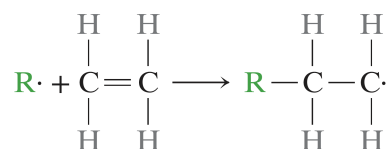

Figure 3: Initiation step of the addition polymerisation process.
1. **Initiation:** A initiator molecule undergoes an addition reaction with an unsaturated monomer. The initiator molecule must be 'active'; that is, it must have a free radical which can 'attack' the double bond of the monomer and allow the initiator to bond to the molecule. This is represented in Figure 3.